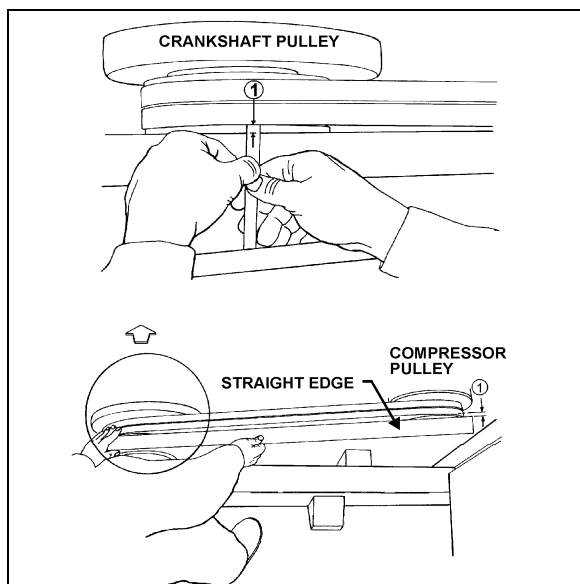

FIGURE 25: COMPRESSOR ALIGNMENT
2. Check the distance between each extremity of straight edge (1. Fig. 25) and the first drive belt. If they are different, loosen the compressor support bolts and with a hammer, knock support to slide it in order to obtain the same distance; then tighten bolts.
2. Check the distance between each extremity of straight edge (1, Fig. 25) and drive belt. If they are different, loosen the pillow block compressor bolts and with a hammer, knock compressor pillow block to slide it, in order to obtain the same distance; then tighten bolts.